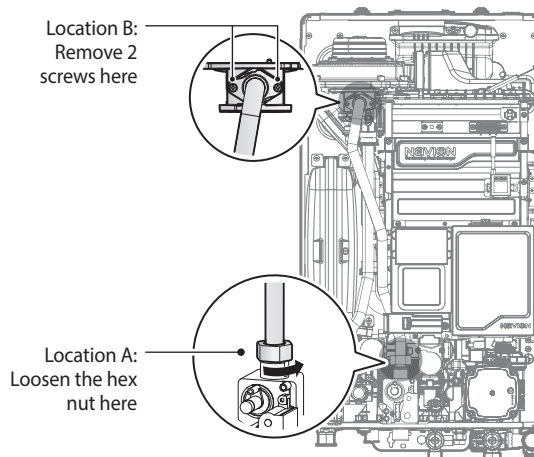

Figure 3. Detaching Gas Inlet Pipe from Gas Valve and Fan Motor Assembly
9. Loosen the hex nut at location A - the connection above the gas valve where it connects to the pipe. See Figure 3 for reference. Once the hex nut is loose, carefully separate the pipe from the gas valve.